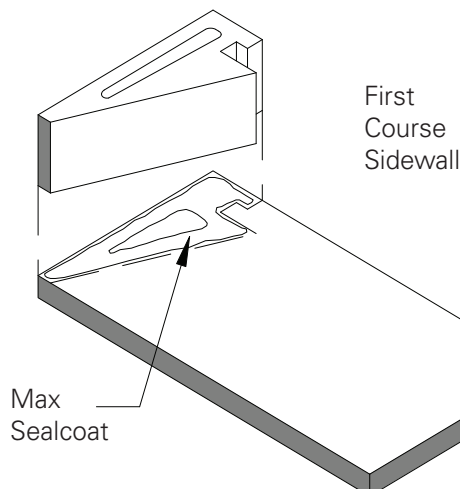

FIGURE 8
2. Set the first course of the firebox back wall and side walls into place. **(Figure 8)**